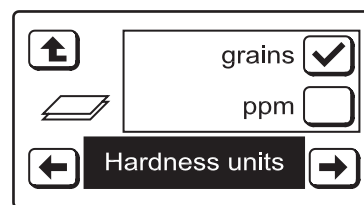

FIG. 74
6. Press the **LEFT** (←) button to display the **Hardness units** screen (See Figure 74).